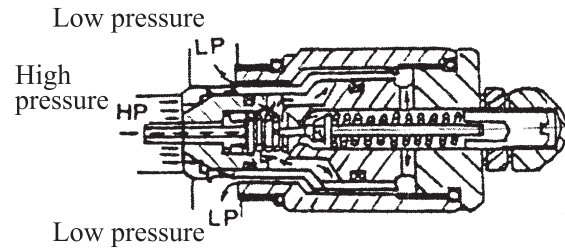

Fig. 7-8
(2) When the pressure in the cylinder port “HP” reaches the set pressure of the pilot poppet spring force, the pilot poppet “E” opens. The oil passes around the poppet, flowing through the drilled hole to the low pressure side “LP”.(See Fig. 7-8)